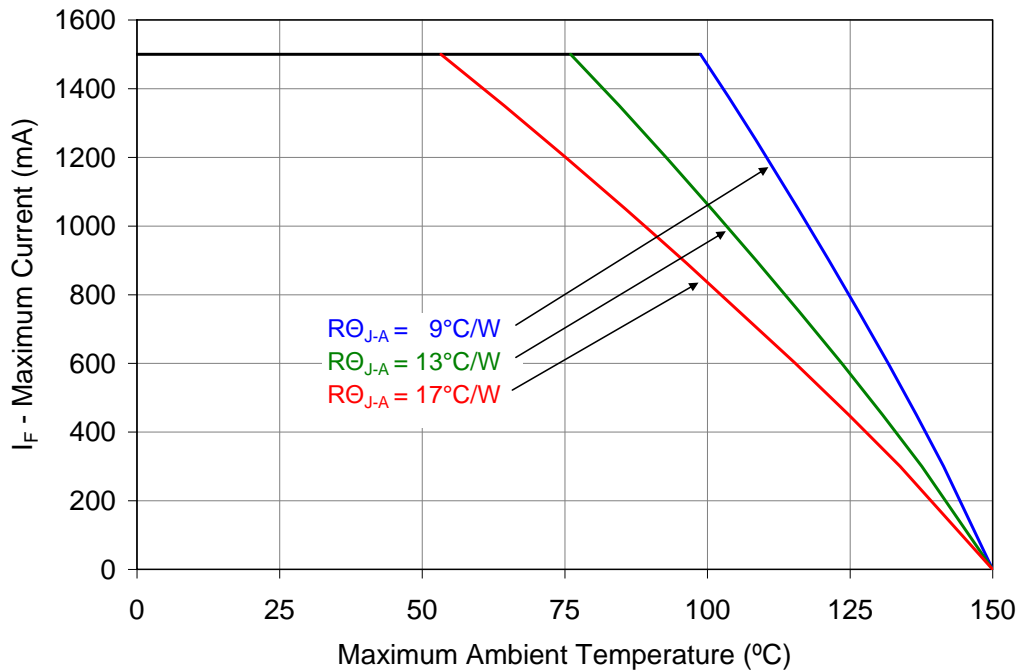

Figure 10: Maximum forward current vs. ambient temperature based on $T_{(MAX)} = 150^\circ\text{C}$.
- Maximum DC forward current is determined by the overall thermal resistance and ambient temperature. Follow the curves in Figure 10 for current derating.
Notes for Figure 10: